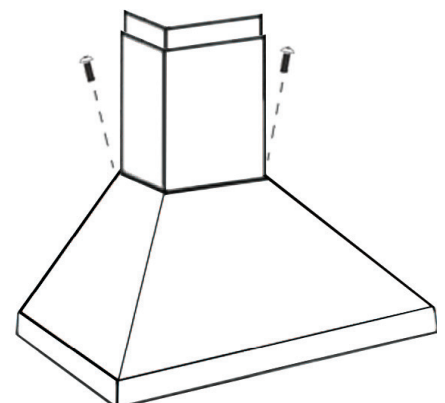

Figure 4
- Use two (2) screws (D) to fix lower chimney to range hood (Figure 4).